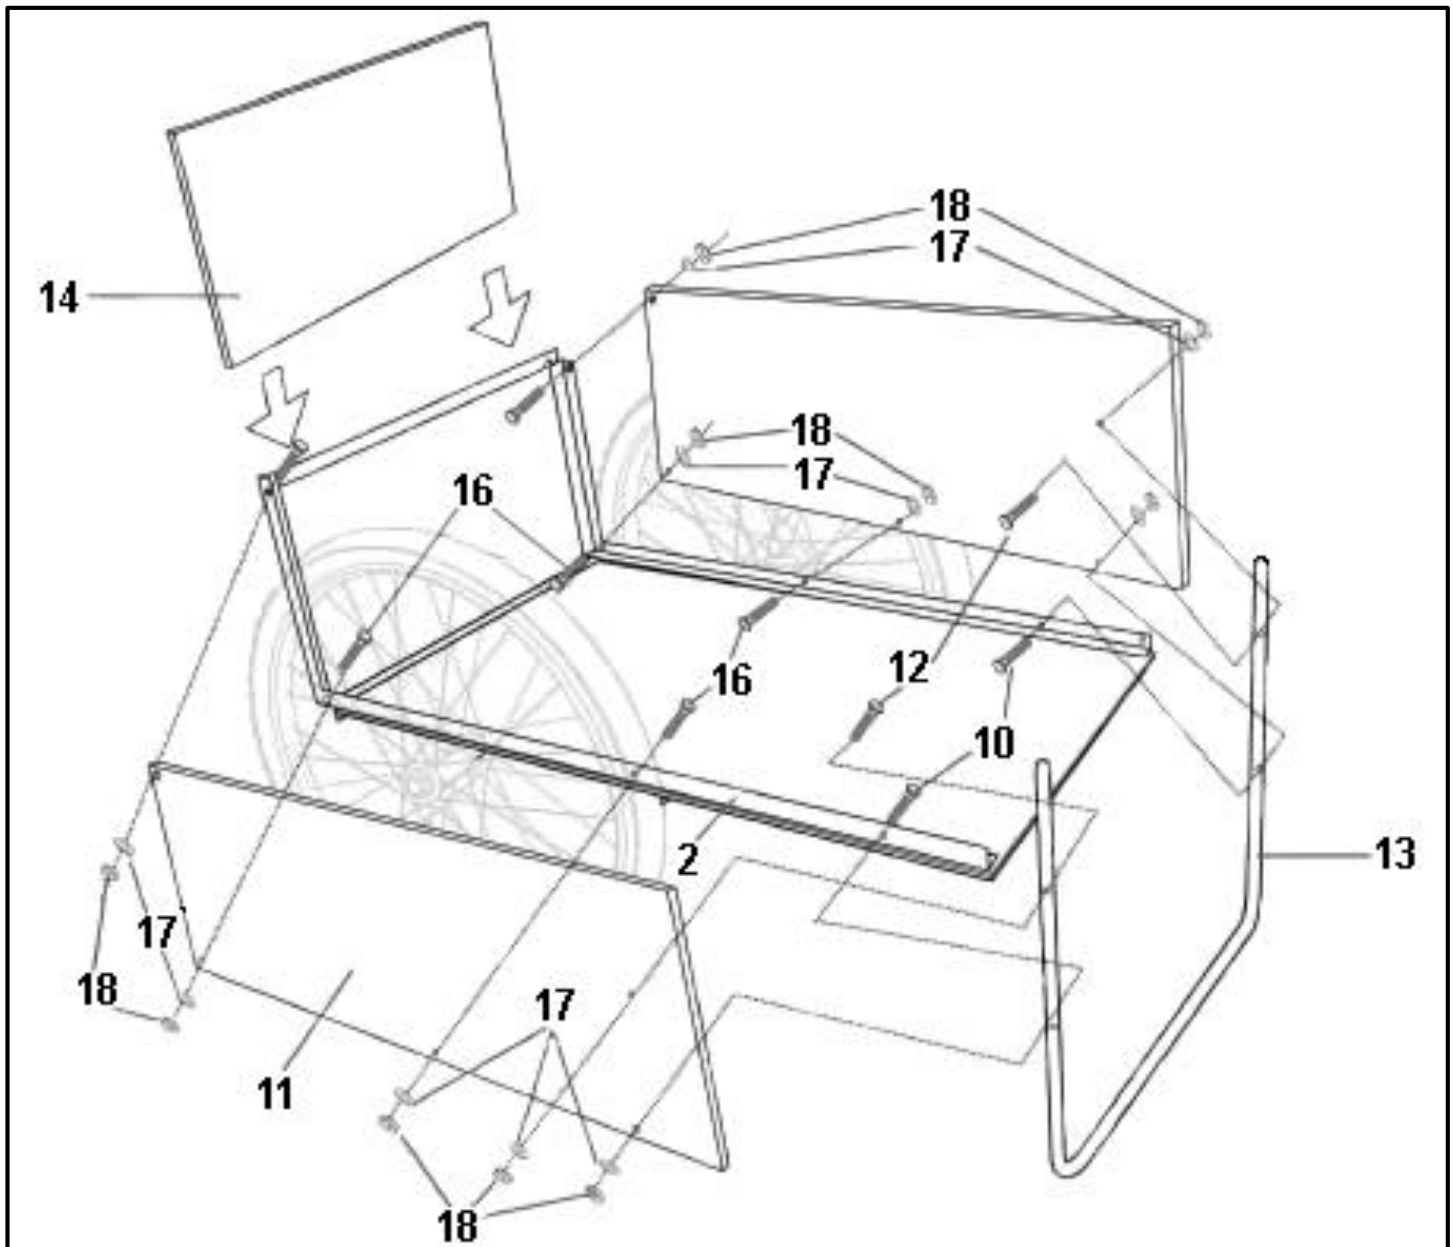

Figure 3
**THIRD** – Attach Panels (See Figure 3)
1. Attach Side Panel (11) and L-Shaped Frame (2), tightening with Bolt (16), Washer (17) and Lock Nut (18).
2. Attach Side Panel (11), L-Shaped Frame (2) and Support Leg (13), tightening with Bolt (10) and (12), Washer (17) and Lock Nut (18).
3. Slide Front Panel (14) into the Cart.